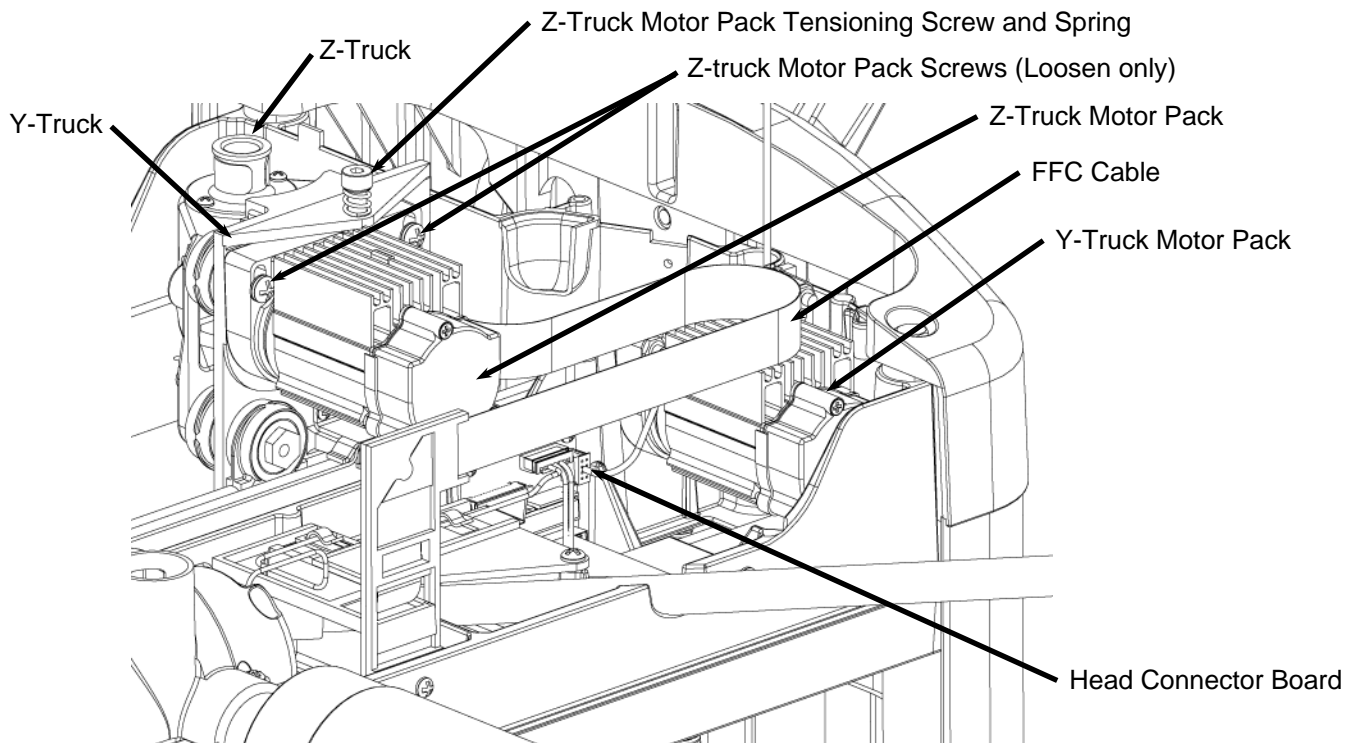

FIGURE 10: CLOSE-UP VIEW OF THE HEAD ASSEMBLY
3. **Re-tension the Z-truck belt:** In order to keep the truck in place while you tighten it, replace the Z-truck motor pack tensioning shoulder screw and spring with the 4mm Allen wrench (See Figure 10). This screw and spring set the tension on the belt to the correct level. Tighten the shoulder screw all the way down.